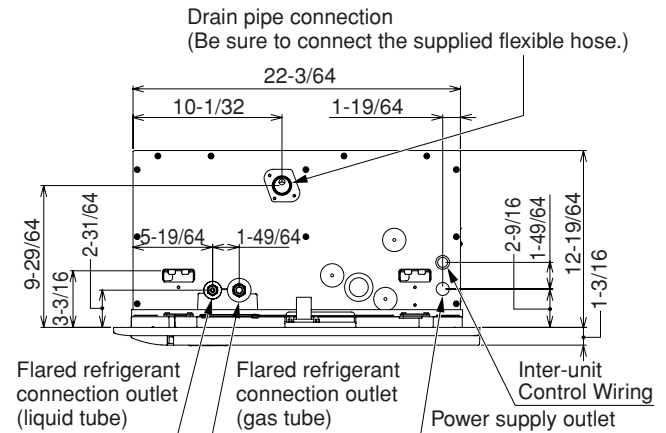

Fig. 3-30
- (3) Calculate the suspension bolt pitch using the full-size installation diagram (printed on the package). The relationship between the positions of the suspension lugs, unit, and ceiling panel is as shown in Fig. 3-30.
- (4) Cut the ceiling material, if necessary.